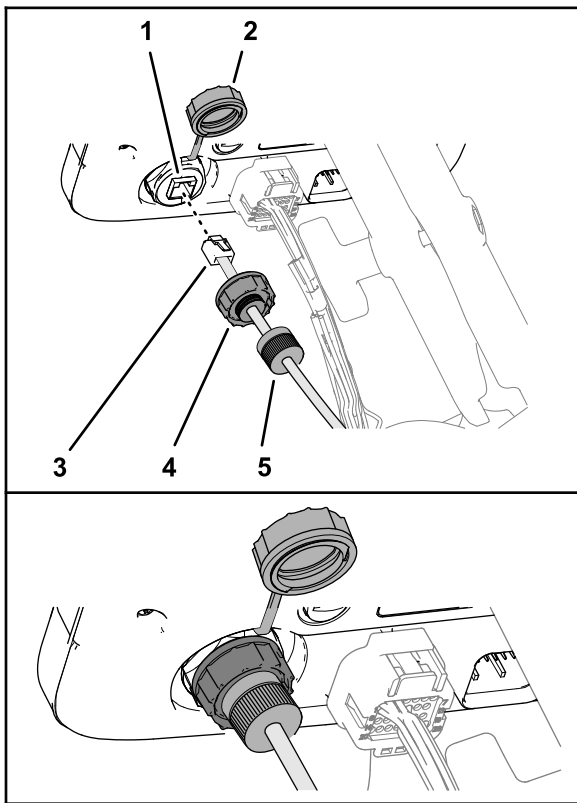

Figure 180
2. At the front of the sprayer display, remove the cap from the RJ45 port (Figure 180).
3. Plug the RJ45 connector of the modem data cable labeled X-CONSOLE into the RJ45 port of the sprayer display (Figure 180).
4. Assemble the port seal nut over the RJ45 port of the sprayer display, and tighten the seal nut (Figure 180).
5. Assemble compression nut over port seal nut, and tighten the compression nut (Figure 180).